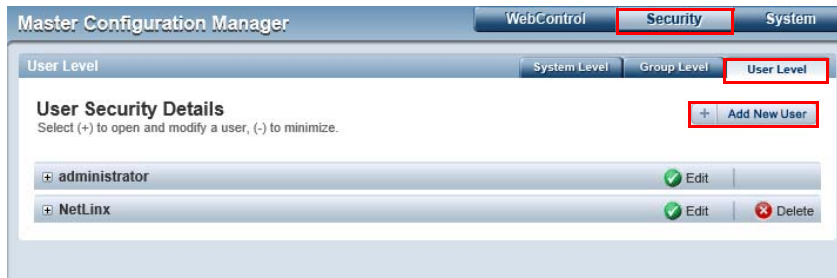

FIG. 103 NI Master WebConsole - Security > User Level tab
1. In the WebConsole, select **Security** from the main menu bar, and open the **User Level** tab to access the *User Security Details* options (FIG. 103):